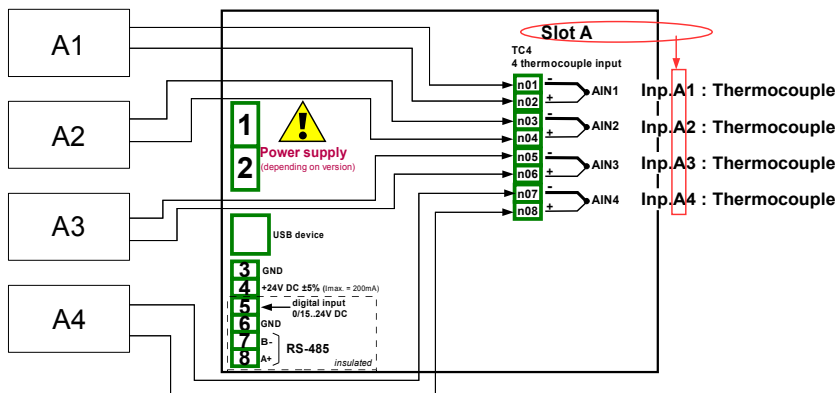

Fig. 7.54. Schematic diagram for the **TC4** module
Before measuring temperature the thermocouple sensors should be connected to the device. An example of how the connection is shown in Fig. 7.54 (see also **Appendix 8.3TC4, TC8 – THERMOCOUPLE SENSOR MEASUREMENT MODULES**).
- choose as the source - **Inp. A1: Thermocouple** (see the connection in Fig. 7.54), press the **Source configuration** button to set the source configuration options,